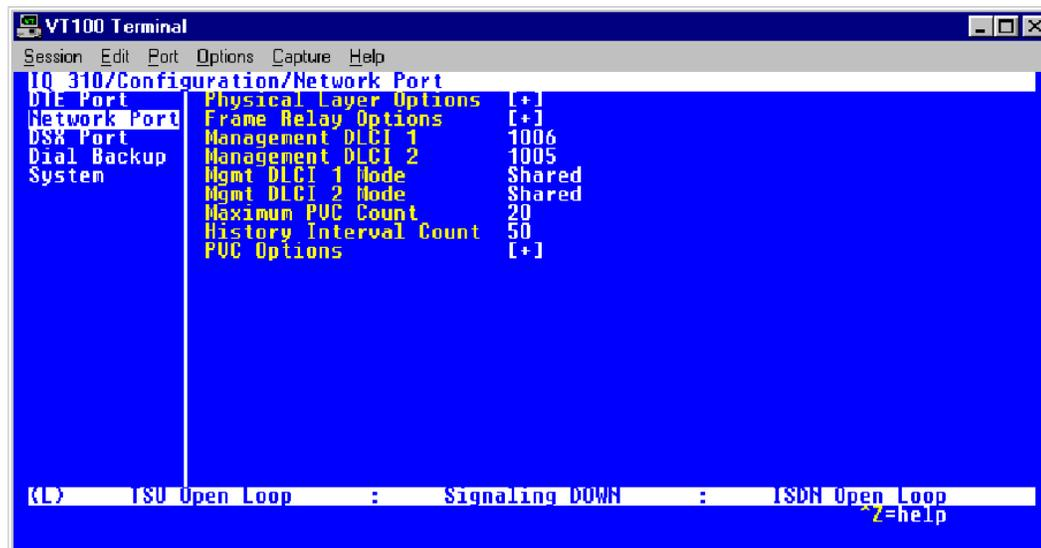

Figure 22. Network Port Menu
2. Use the arrow keys to select **NETWORK PORT**; then press <ENTER>. The screen shown in Figure 22 will appear.